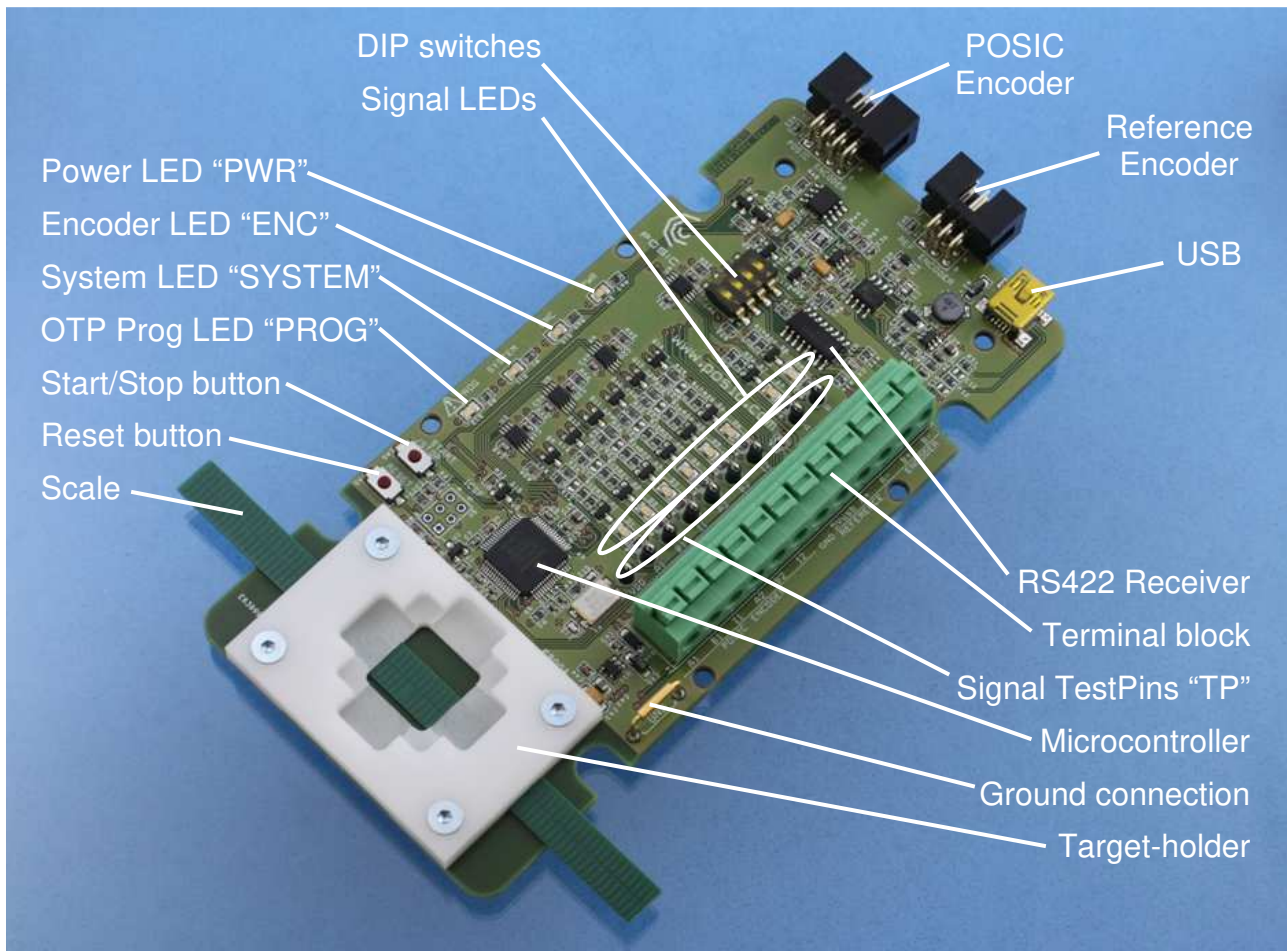

Figure 3 The Interface Board.
The most important elements on the Interface Board are shown in Figure 3. The schematics are given in Annex 5.
The Target-holder is the white plastic part shown in Figure 3. It allows to position the encoder and the target in approximately the right positions: the encoder is aligned to track with copper stripes on the scale or the codewheel. When the encoder-holder, on which the encoder is assembled, is gently pressed into the target-holder, the airgap is approximately 0.2 – 0.3 mm. The Target-holder allows to verify if the encoder is functional, however, it is not intended for accurate measurement of linearity, repeatability, accuracy etc.
The status of the LEDs in Figure 3 are explained in Table 2.
- 2) Place the encoder in front of the target and move the target gently. The A quad B encoder output signals are displayed by the Signal LEDs and can be measured on the Signal TestPins (see also Figure 3)